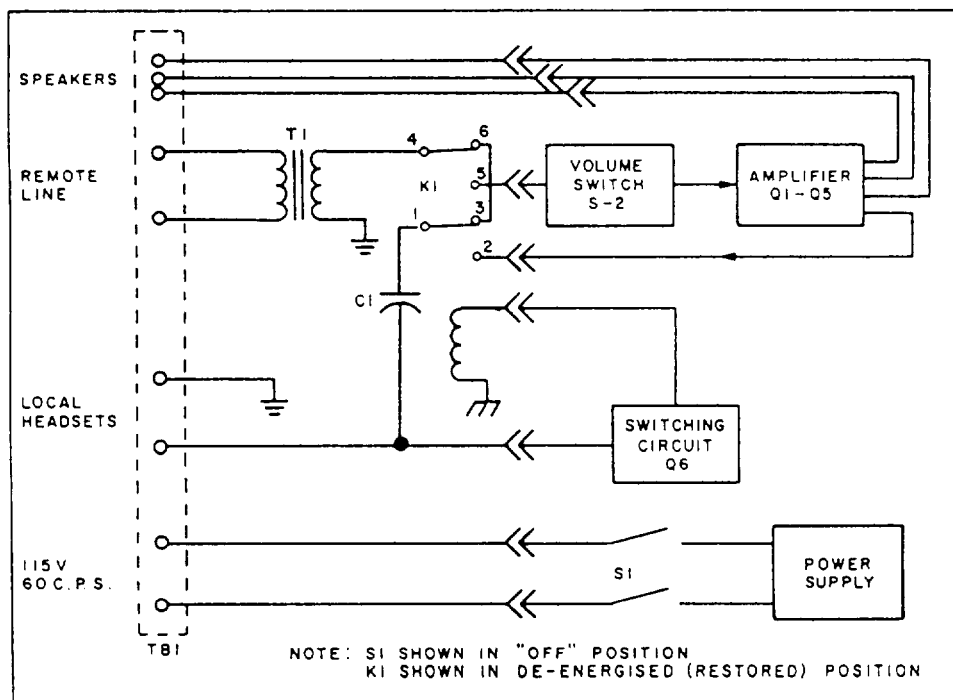

Figure 5-16.—Functional diagram of AM-2210/WTC.
Figure 5-16 is a functional diagram of the AM-2210/WTC. One relay (K1) is used in the switching circuit.
**AUDIO AMPLIFIER.**— The audio amplifier (fig. 5-16) consists of a low-level, three-transistor amplifier (Q1 through Q3) and a power amplifier (Q4 and Q5), with negative feedback employed throughout. The output transformer (T3, not shown) has two secondaries: the first is used with the loudspeakers and the latter, a tapped winding, is used for as many as six sound-powered telephone outlets. The amplifier provides a 10-watt output.
**POWER SUPPLY.**— The power supply is basically a full-wave rectifier receiving its power through switch S1 (fig. 5-16) and the fuses on the face of the amplifier. A neon glow lamp and a volume control potentiometer are also located on the face of the amplifier. The amplifier operates on 115-volt, 60-Hz, single-phase power, which is normally supplied by the ship's local lighting panels.